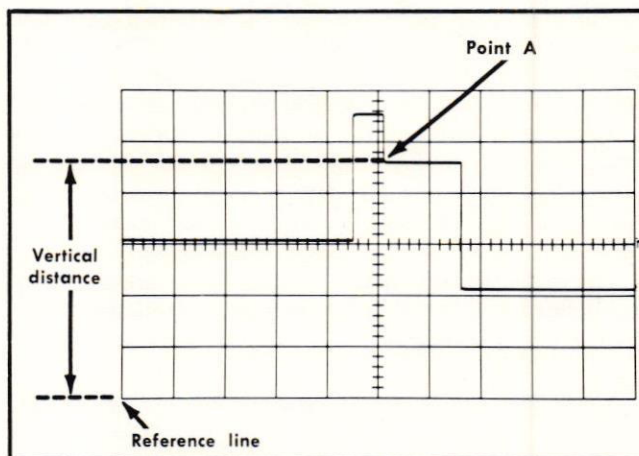

Fig. 2-14. Measuring instantaneous DC voltage with respect to a reference voltage.
8. Measure the distance in divisions between the reference line and the point on the waveform at which the DC level is to be measured. For example, in Fig. 2-14 the measurement is made between the reference line and point A.
EXAMPLE: Assume that the vertical distance measured is 4.6 divisions (see Fig. 2-14), the waveform is above the reference line, using a 10X attenuator probe and a VOLTS/DIV switch setting of 2.